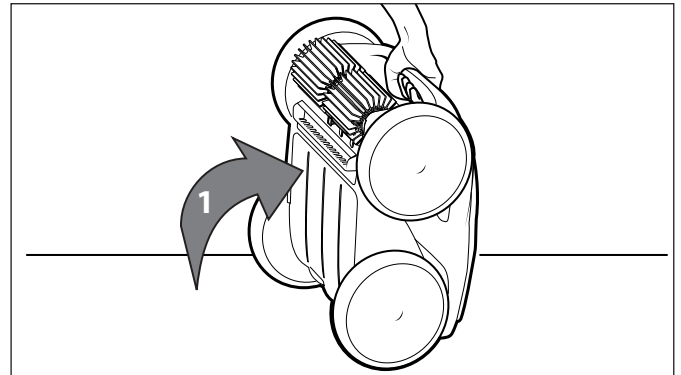

Figure 26. Cleaner in Upright Position
- Lift the cleaner to a vertical position so that the handle is up (Figure 26).